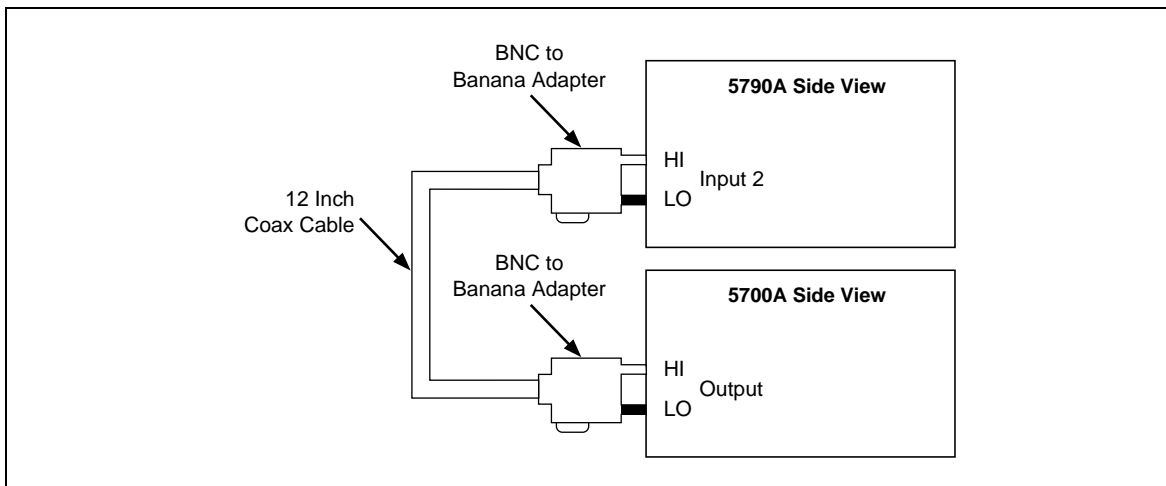

Figure 3-7. AC Voltage Test Setup
1. Place the 5790A on top of the 5700A and connect the equipment as shown in Figure 3-7.